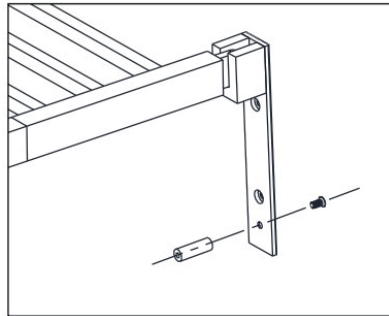

Figure 1
2. Fix the connecting bar with mounting brackets by the fixing bolts. See as figure 1